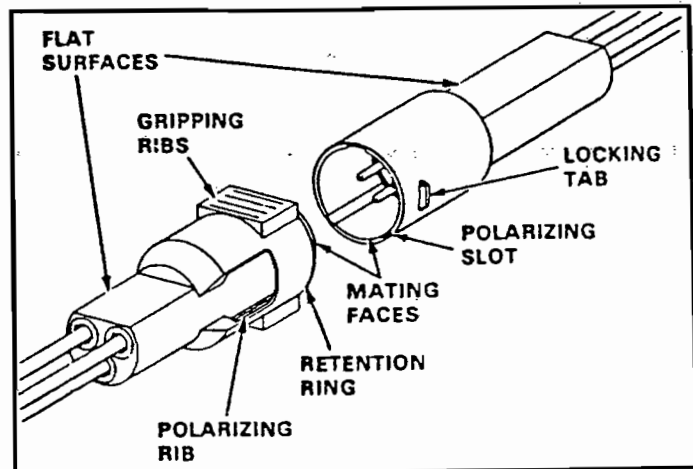

Fig. 7
B. Unmating (Figure 7)
A. Mating (Figure 7)